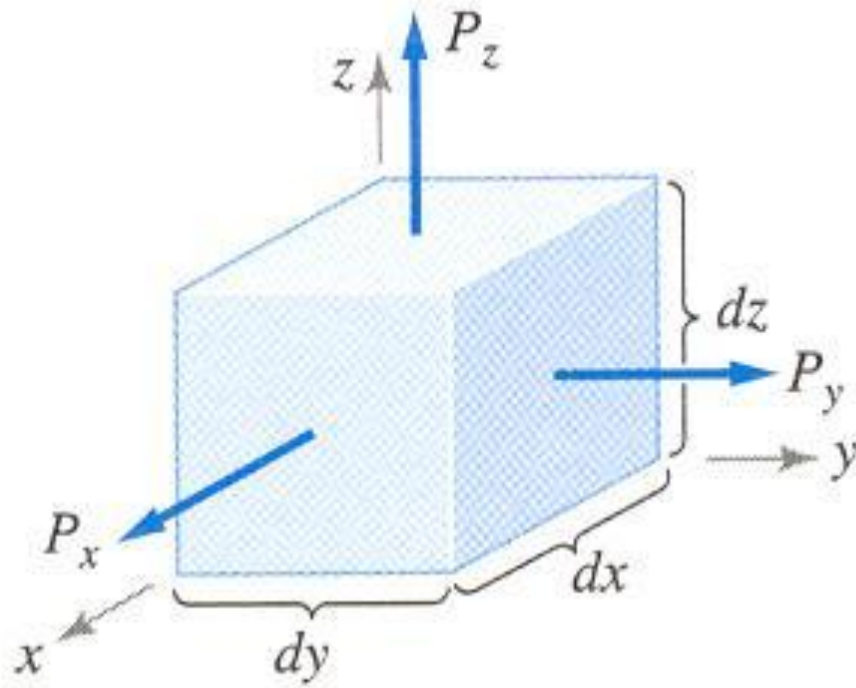

Figure 4.11
- Strain energy per unit volume for differential cubic element (Fig. 4.11)